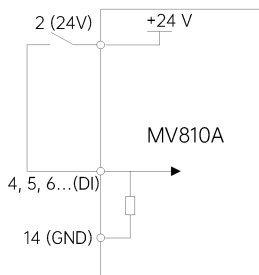

Figure 2-5 Wiring when using the internal +24 V power supply of the drive
(1) P09.11 = 0 (set the digital terminal open-circuit voltage to 0 V)
- ① Dry contact mode, as shown in Figure 2-5.